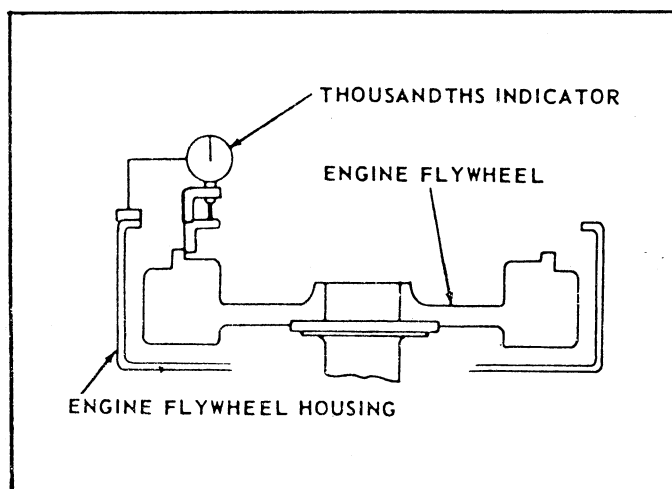

Figure 52. Checking the Driving ring pilot bore of the engine Flywheel Housing.
G. Checking Driving Ring Pilot Bore of Engine Flywheel. With the indicator mounted as in Paragraph F above, adjust the indicator stem so that it will ride on the driving ring pilot bore of the engine flywheel (fig. 52). The driving ring pilot bore eccentricity of the engine flywheel should not exceed 0.005-inch maximum total indicator reading.